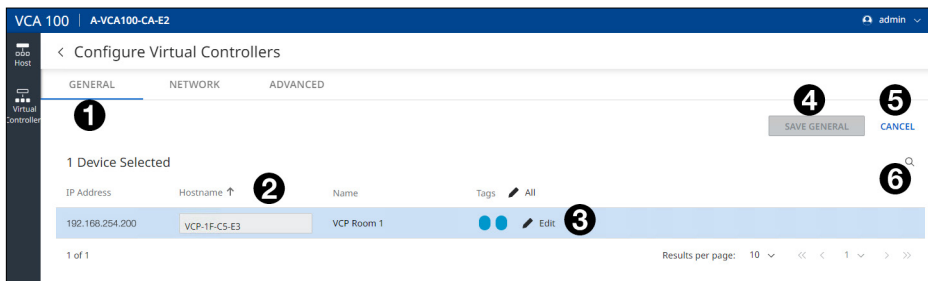

Figure 27. Configure Virtual Controllers — General Tab
The Configure Virtual Controllers page opens with the **GENERAL** tab (see figure 27, 1) selected.
4. If required, edit the Tags (see figure 27, 3, on page 26 and “Edit Tags” below).
3. Click **All** at the top of the Tags column (see figure 27, 3).
1. Click **Edit** next to an individual VCP (see figure 27, ③, on page 26).
1. Click **Edit** next to an individual VCP (see figure 27, ③).